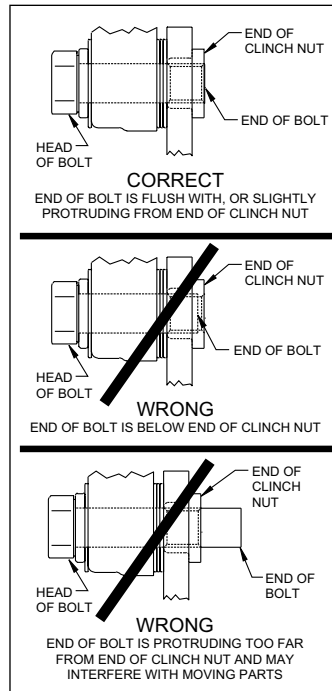
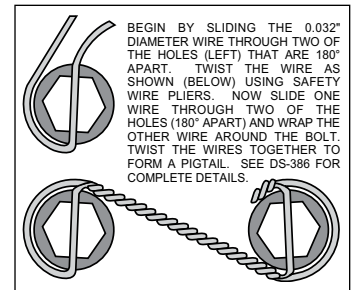

Figure 4. Clinch Nut Engagement Diagram
Figure 5. Safety Wire Diagram
CAUTION: All mounting bolts must fully engage clinch nuts. Be sure to check that all bolts are either flush or protruding through flanged side of clinch nut after shimming, Figure 4.
STEP 4 Align the correct hole pattern in the hat (2) with the axle stud pattern and slide the hat/rotor assembly onto the axle hub. **NOTE:** The hat must fit flush against the axle flange or excessive rotor run out may result. Install three lug nuts (finger tight) to keep the hat/rotor in place while continuing with the installation, Photo 5. **NOTE:** Some OEM and aftermarket axles come with stud sizes larger than 0.50" diameter. Verify stud size, and if necessary, have a qualified machine shop drill the hats to the correct size.
STEP 5 **NOTE:** Please reference the caution statement at the beginning of the assembly instructions. Mount one caliper (6) onto the mounting bracket (1) using bolts (7) and washers (8), as shown in Figure 1. Initially place two .035" thick shims (9) on each bolt between the caliper and the bracket, Photo 6. Temporarily tighten the mounting bolts and view the rotor (4) through the top opening of caliper. The rotor should be centered in the caliper, Photo 7. If not, adjust the caliper by adding or subtracting shims (9) between the bracket and the caliper. Always use the same amount of shims on each of the two mounting bolts. **NOTE:** The end of each bolt must be flush with or slightly protruding from the head of the clinch nut. If necessary, place spare shims between washer and caliper mounting ear to achieve the proper clinch nut engagement, as shown in Figure 4. Once the caliper alignment and clinch nut engagement are correct, remove the bolts (7) one at a time, apply red *Loctite*® 271 to the threads, and torque to value shown in Figure 1. For an added measure of security, the bolts may be safety wired using standard 0.032 inch diameter stainless steel safety wire as shown in Figure 5. Please refer to Wilwood's data sheet DS-386 (available at www.wilwood.com/Pdf/DataSheets/ds386.pdf) for complete safety wire installation instructions. Repeat this procedure for the second caliper.